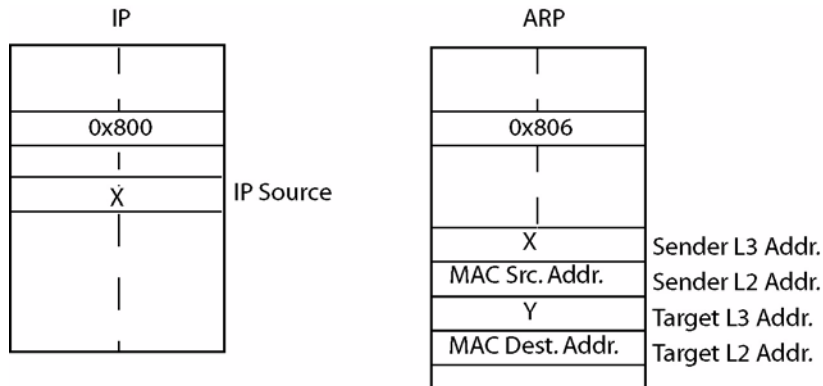

FIGURE 17-4 ARP filtering
Following is an example of what occurs when ARP filtering is enabled on a system. Refer to Figure 17-4 when reading the next section of text.
2. Add a IP filter for 'X' in Figure 17-4. Deny all other IP packets. Note that ARP filtering is not enabled, so ARP and any other non-IP packets can pass.